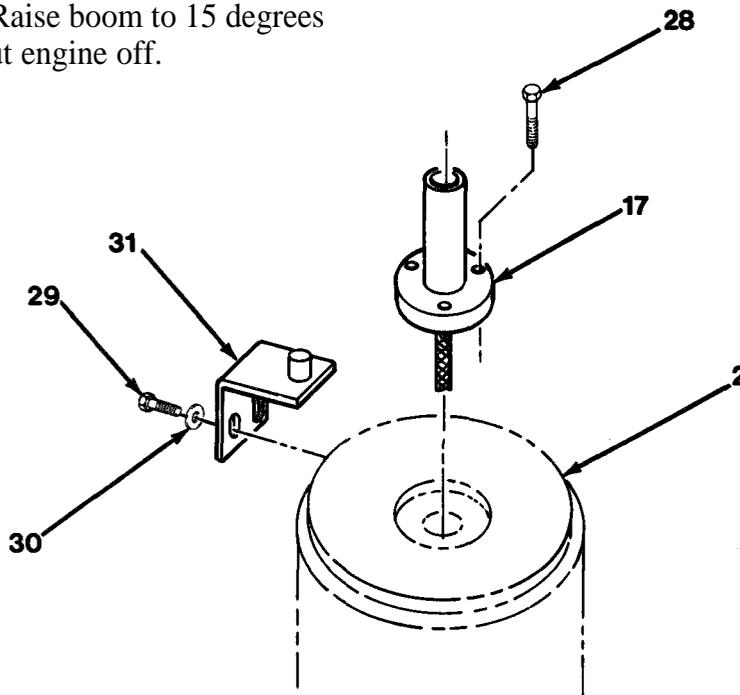

Figure 10-4
5. Install bracket (31), two washers (30) and capscrews (29) on rotary manifold (2, Figure 10-4).
6. Install mounting column (17) and tie capscrews (28).